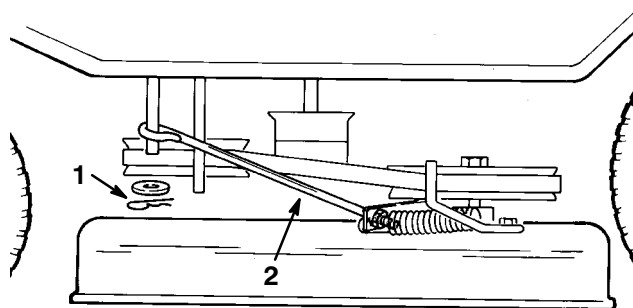

Figure 35
6. Remove the hair pin cotter and washer from the blade control arm on the left side of the mower (Fig. 35). Slide the rod off the arm.